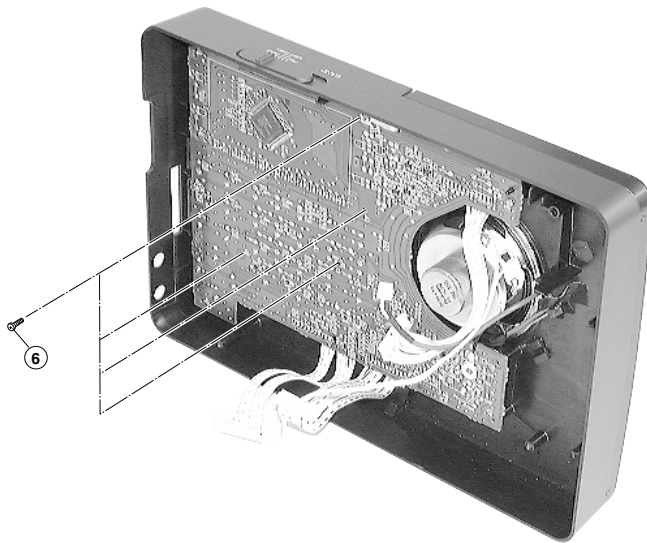

Fig. 5
- (1) Remove 6 screws ⑯ from the Insulator pad.
4. Removal of Main Board (Fig. 5)